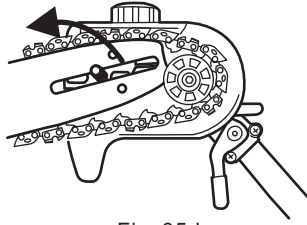

Fig. 35d
5. Take off the guide bar and chain. (Fig.35d)